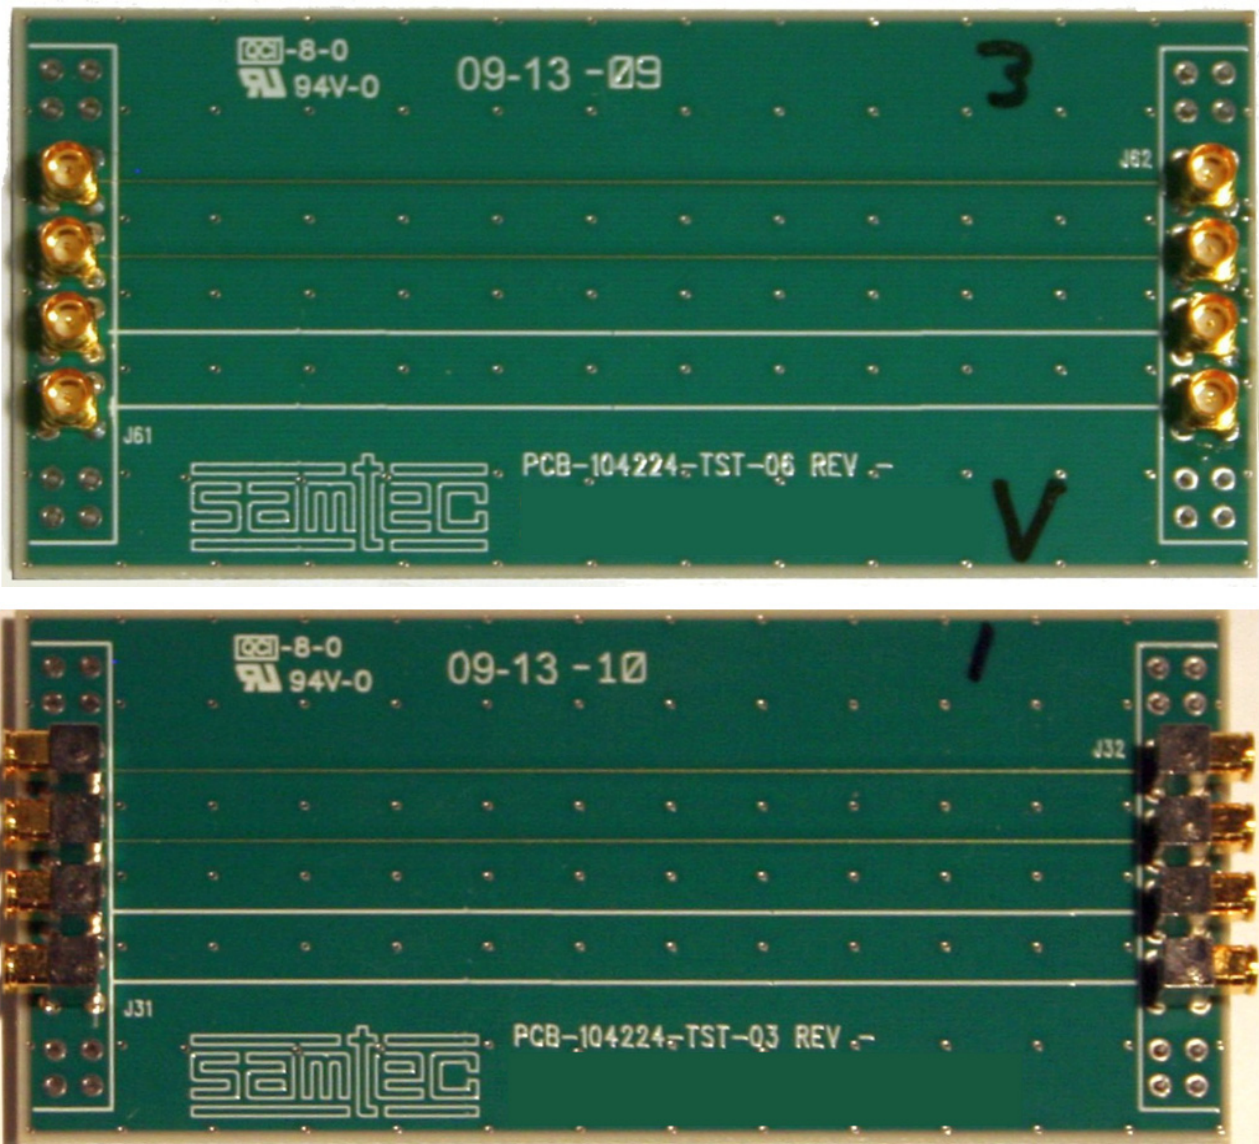

Figure 1: Test Sample Configuration
Sixteen (16) MMCX7-TH jacks were tested. The actual part numbers that were tested is shown in Table 1. A representative sample picture is shown in Figure 1.